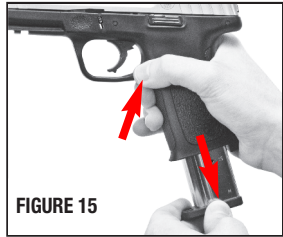

FIGURE 15
- Make sure your finger is off the trigger and out of the trigger guard. Depress the magazine release and remove the magazine (FIGURE 15).